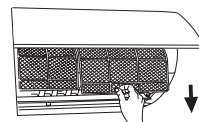

Fig.19
(1)Forcibly pull the panel for a specific angle from the two ends of the front panel according to the arrow direction. Then pull the air filter downwards to remove it. (See Fig.19)